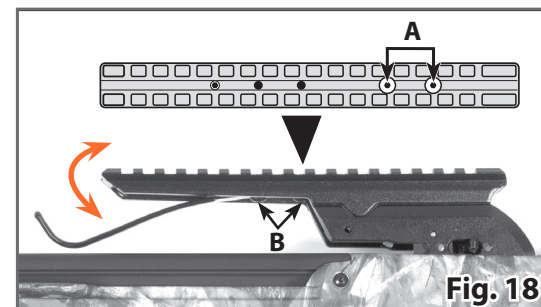

Fig. 18
1. Remove the two screws from the top of the picatinny rail (Fig. 18 A)
3. Remove the two screws on the bottom of the picatinny rail holding the retention spring in place (Fig. 18 B)